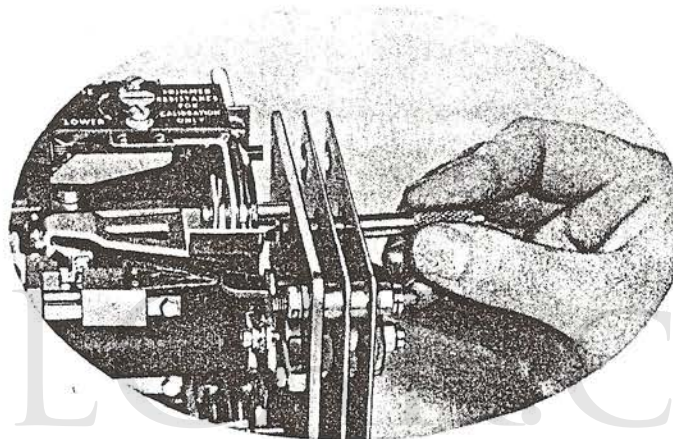

FIG. 5
- (2) Move the clapper by hand as in (1), and then, covering the capillary valve orifice with a piece of rubber tubing of suitable size, (pinched to seal it off) or with the tool provided, again note the time required to return (see Fig.5). If this time is less than seven seconds, the dashpot is leaking, and should be replaced.